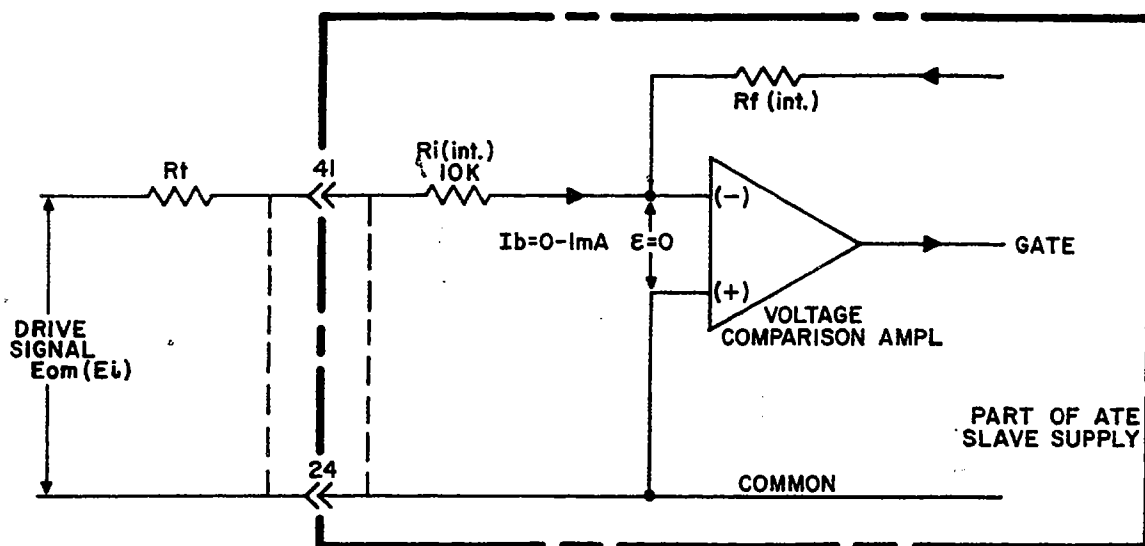

FIG. 3-21 DEVELOPING THE DRIVE FOR THE MASTER/SLAVE SERIES CONNECTION, ATE POWER SUPPLIES WITH RATED OUTPUT VOLTAGE > 6V.
- 3-98 As seen from the diagram (FIG. 3-21) in each SLAVE supply, the input to the VOLTAGE COMPARISON AMP is disconnected from the output of the VOLTAGE CONTROL amplifier and an external drive signal is derived from the output voltage of the MASTER supply (E_{om}) and applied via a coupling resistor (R_t), to the SLAVE supply.